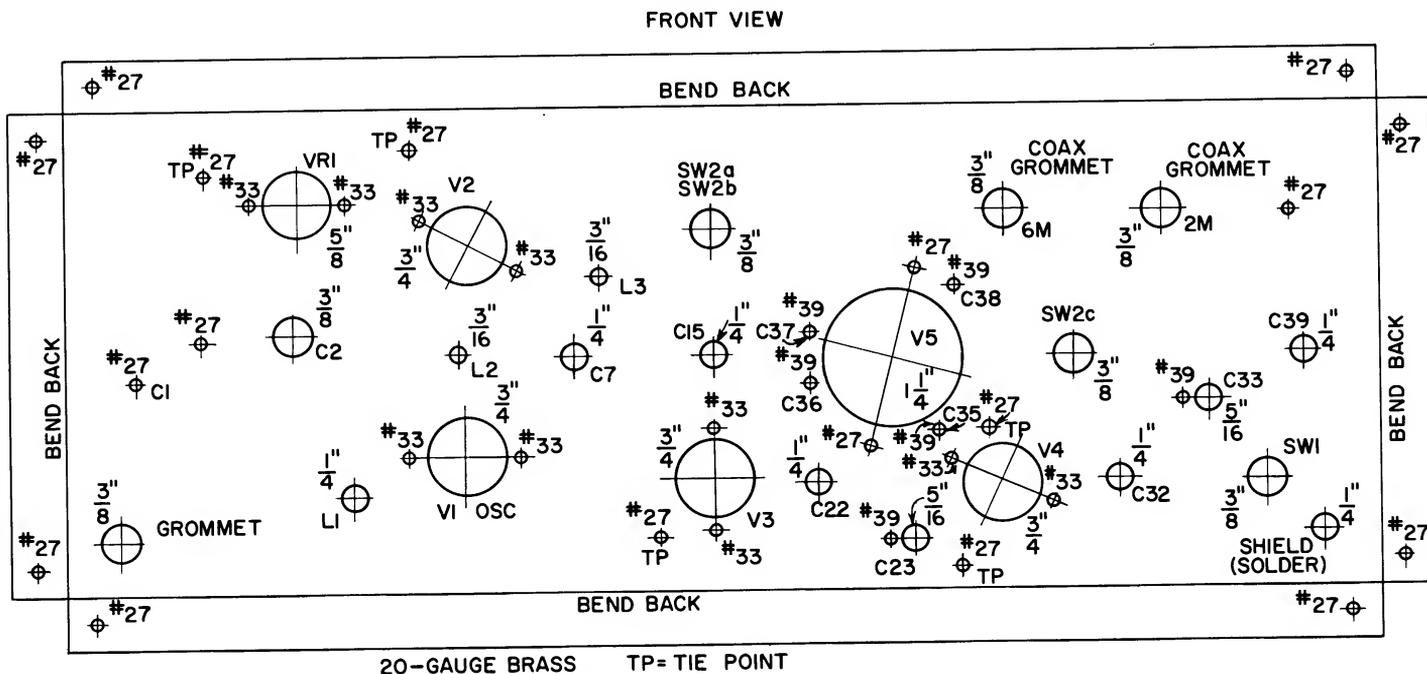

Figure 4: Construction details for main-chassis template.
**MODIFICATIONS:** In the Part I, Page 5, photograph (Winter, 1962-63, issue) showing modulator construction and rf section, the meter switch,  $S_1$ , is shown mounted on the front panel. The authors subsequently modified the transmitter to mount  $S_1$  on the rf chassis with a shaft extension to the front panel, as described in the text. The main rf chassis template (Part II, Figure 4) includes this modification. The modification was made to prevent the meter leads from picking up stray rf from the final tank coil. Also note that in the Part I, Figure 1 schematic diagram, the final amplifier, V5, is incorrectly labeled as 4606 rather than 4604 as described in the text. Also, VFO tube V1 shows the junction of  $R_1$  and  $R_2$  incorrectly connected to the screen grid rather than to the control grid (pins 8 and 9). Multiplier V3 shows pin 8 incorrectly connected to the suppressor grid rather than to its screen grid. On both V2 and V3, socket pin 8 should be tied to pin 3 with a short jumper. Resistor  $R_{17}$  is incorrectly shown as  $A_{17}$ . Switch  $S_1$  in Parts List ( $S_{1a}$  and  $S_{1b}$  in schematic diagram) is actually a two-pole, single-wafer, five-position rotary. The ceramic switches (Parts List designations  $S_{2a}$ ,  $S_{2b}$ ,  $S_{2c}$ ,  $S_{2d}$ , and  $S_{2e}$ ) are three Centra-lab miniature type PA-2007's—modified as described in the text.